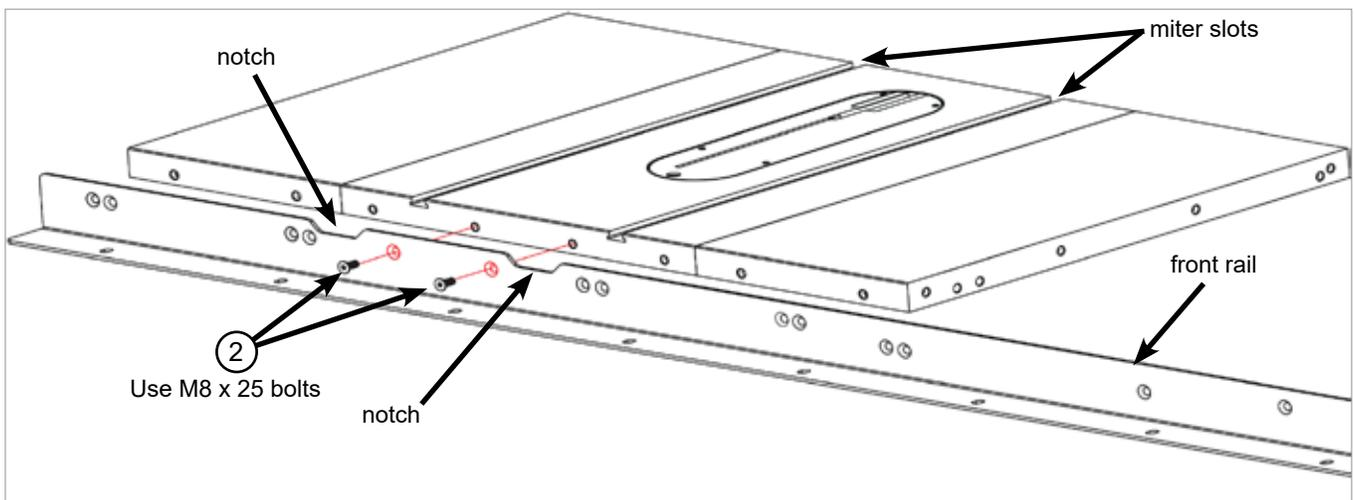
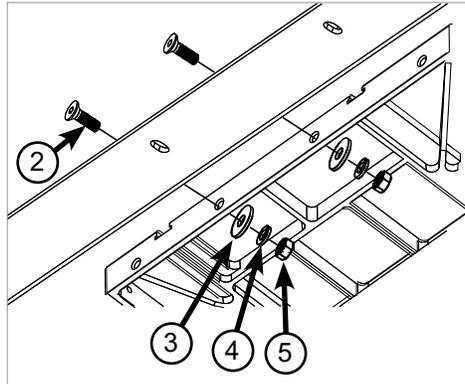

Fig. 1a
Fig. 1b
1. Begin mounting the front rail (the longer of the two rails) to the front edge of your saw by centering the notches in the rail with the two miter slots in the table, aligning the two holes in the rail between the notches with the two corresponding holes in the front edge of the table, and inserting an M8 x 25 countersunk socket head bolt into each hole (see Fig. 1a). Aligning the two holes between the notches aligns all the other holes used in mounting the rail to your saw. Not all the holes are used to mount the rail to your saw; different holes are used for different saws. Insert the bolts one at a time, placing an M8 washer and an M8 lock washer on the threaded end of each bolt and then threading on an M8 hex nut (see Fig. 1b). Hand tighten the nuts; do not fully tighten them.